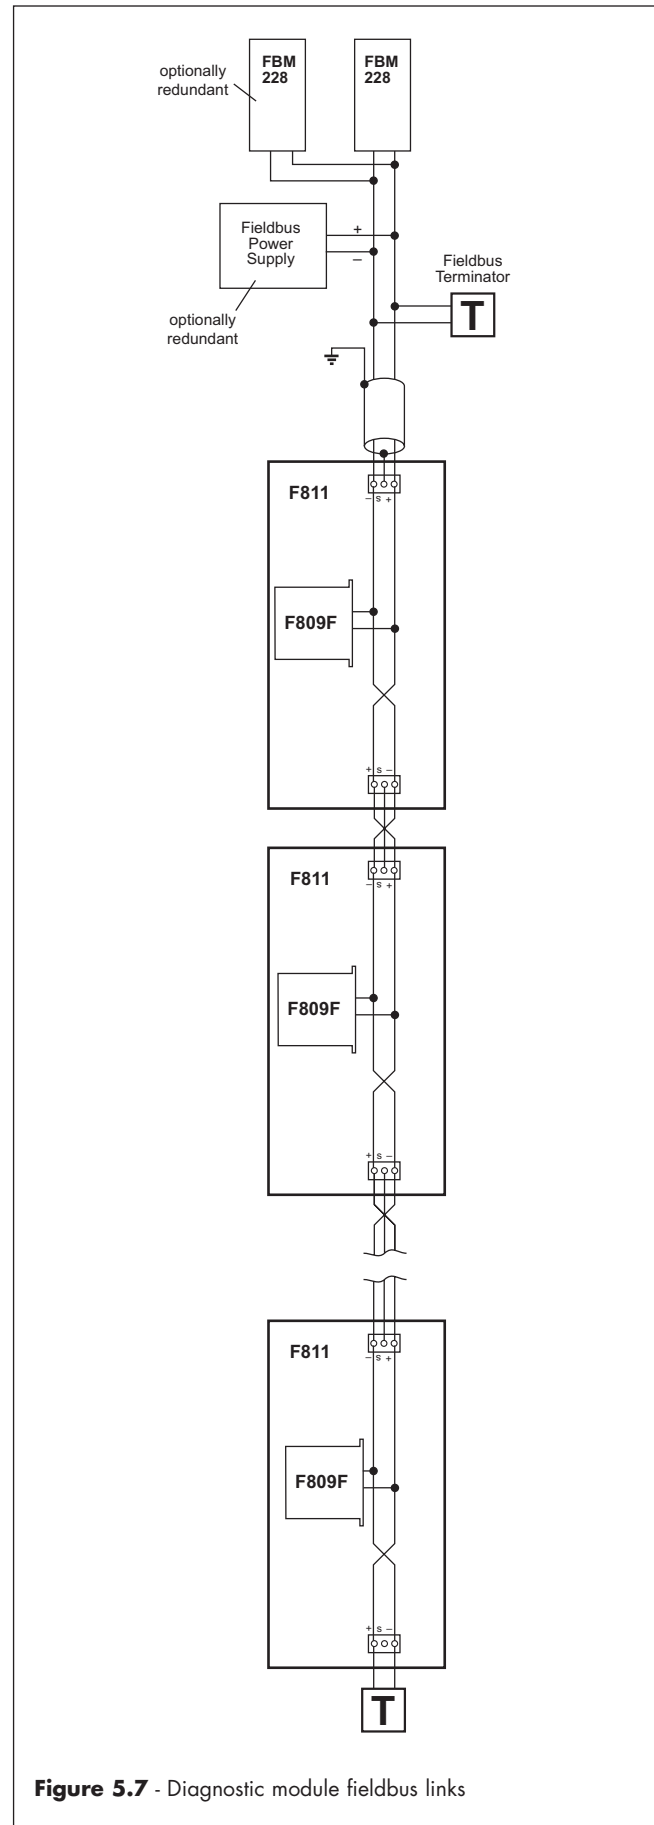

Figure 5.7 - Diagnostic module fieldbus links
Figure 5.7 shows how a dedicated diagnostic segment, comprising multiple F811 carriers, is interlinked, powered and terminated. Where carriers are installed in vertical columns, connect the H1+, H1- and H1S terminals of adjacent carriers as shown. A segment may support a number of F809F modules. The actual number is based on a number of factors:
The diagnostic segment must be powered by a conditioned fieldbus power supply (see Figure 5.7), such that a voltage in the range 9–32V DC is available at each F809F fieldbus diagnostic module connected on the segment.
**Note:** This power is not provided automatically from the F811 carrier and must be connected as shown in Figure 5.7